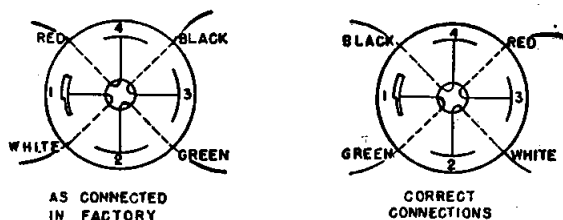

FIGURE 1.—Connections to cable plug P-403 in Model NMC equipment.
*Procedure.* 1—Change connections to cable plug P-403 as shown in Figure 1.